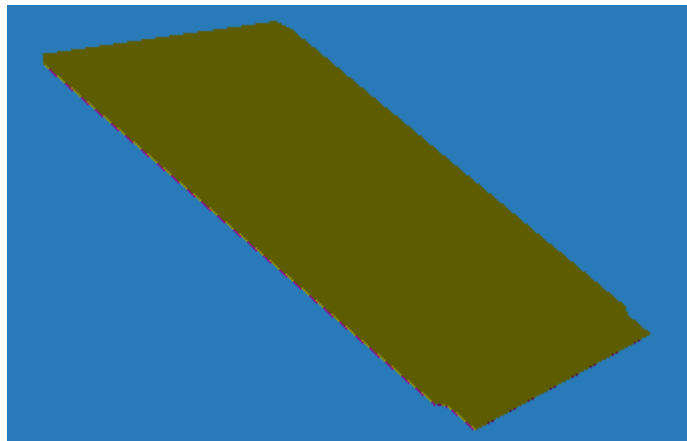
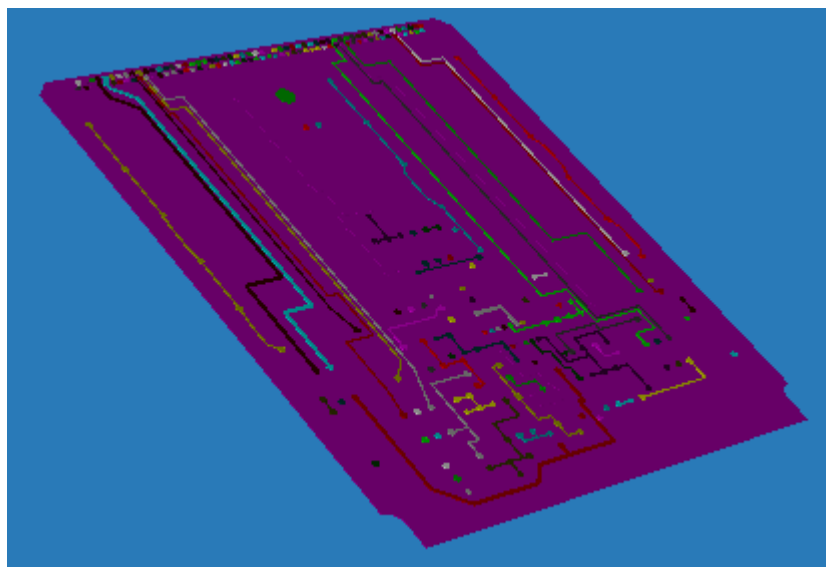

Figure 11. Converted stratum converted without details
Figure 12. Stratum converted with details
- ☒ "partially selected" check box icon - a stratum without details (see Figure 11).
- ☒ "fully selected" check box icon - a stratum with details (see Figure 12 - the same stratum as in Figure 11).